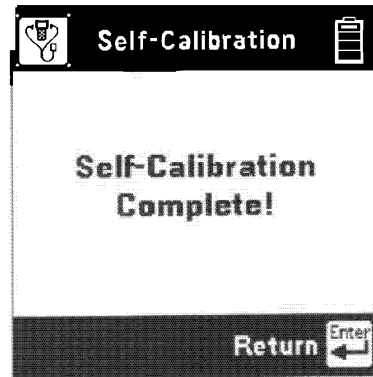

Figure 30. AST900 Self-Calibration Success Display
- (1) If upon completion, the display shows: “Self-Calibration Complete”, the meter is now ready for use. (See Figure 30)
- (2) If upon completion, the display shows: “Self-Calibration Failed!”, Check the test lead connections and perform the test again by pressing the Enter key .
(3) If the meter continues to fail the Self-Calibration, contact the manufacturer for its repair, using the information on the decal on right side of meter.